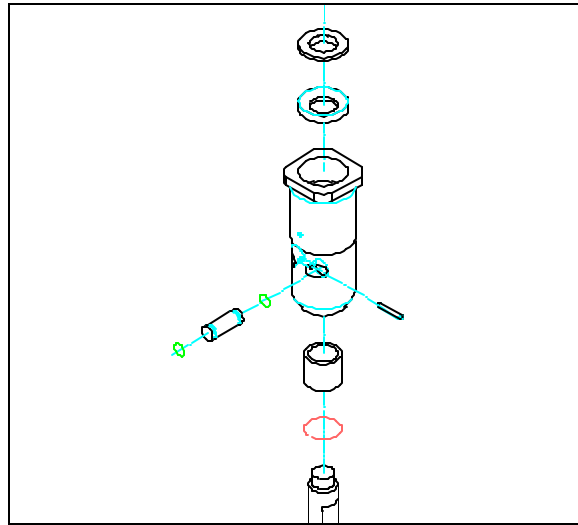

Figure 07-11: Remove Elastic Pin and Retaining Axle
2. Slide out the Upper (Position 107) and Lower (Position 104) Flange by hand. (Figure 07-11)
4. Drive out Retaining Axle, Position 110), from the insert chuck housing (Position 105). (Figure 07-11)
6. Remove the circlip (Position 154) and then remove the insert bushing (Position 153) Clean the insert chuck housing (Position 105) (Figure 07-11)